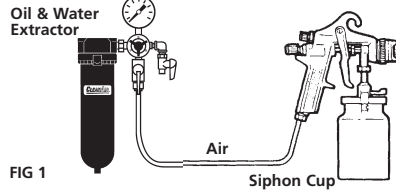

FIG 1
**CONNECTING GUN TO "PRESSURE ASSISTED" 1 QT. CUP (Figure 1)**